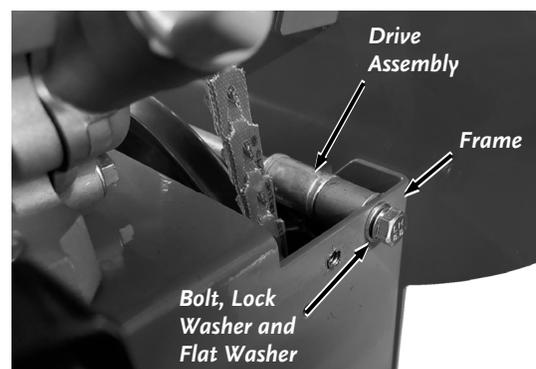

Figure 54
15. Install the Bolt, Lock Washer and Flat Washer to secure the Drive Assembly on the Hopper side of the Frame. (**Figure 54**)